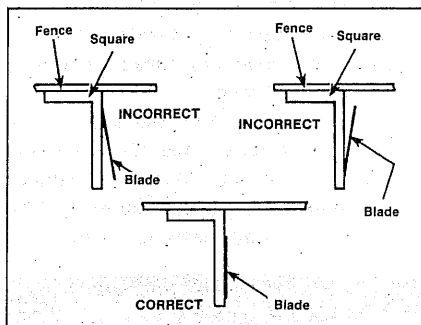

Fig. 15
SQUARING THE SAW BLADE TO THE GUIDE FENCE (Fig. 15, 16)
3. Lay a steel square flat on the table and place the tongue against the fence (Fig. 15).